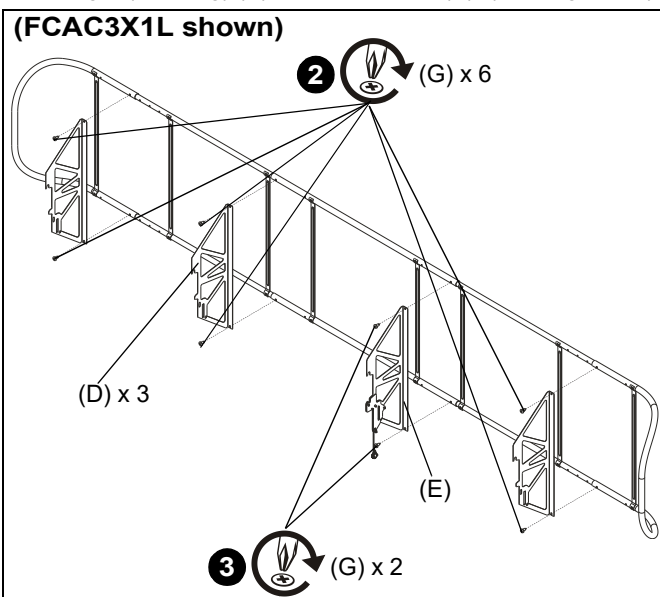

Figure 10
2. Use six #12-24 x 3/8" Phillips tapping screws (G) to secure three uprights (without flags) (D) to outside frames (C), extension frames (M) and center frame (B). (See Figure 10)
NOTE: Example shown (See Figure 10) is to assemble a maximum length frame. Frame can be made shorter and must be shorter for FCAC3X1M.
3. Use two #12-24 x 3/8" Phillips tapping screws (G) to secure upright (with flag) (E) to center frame (B). (See Figure 10)